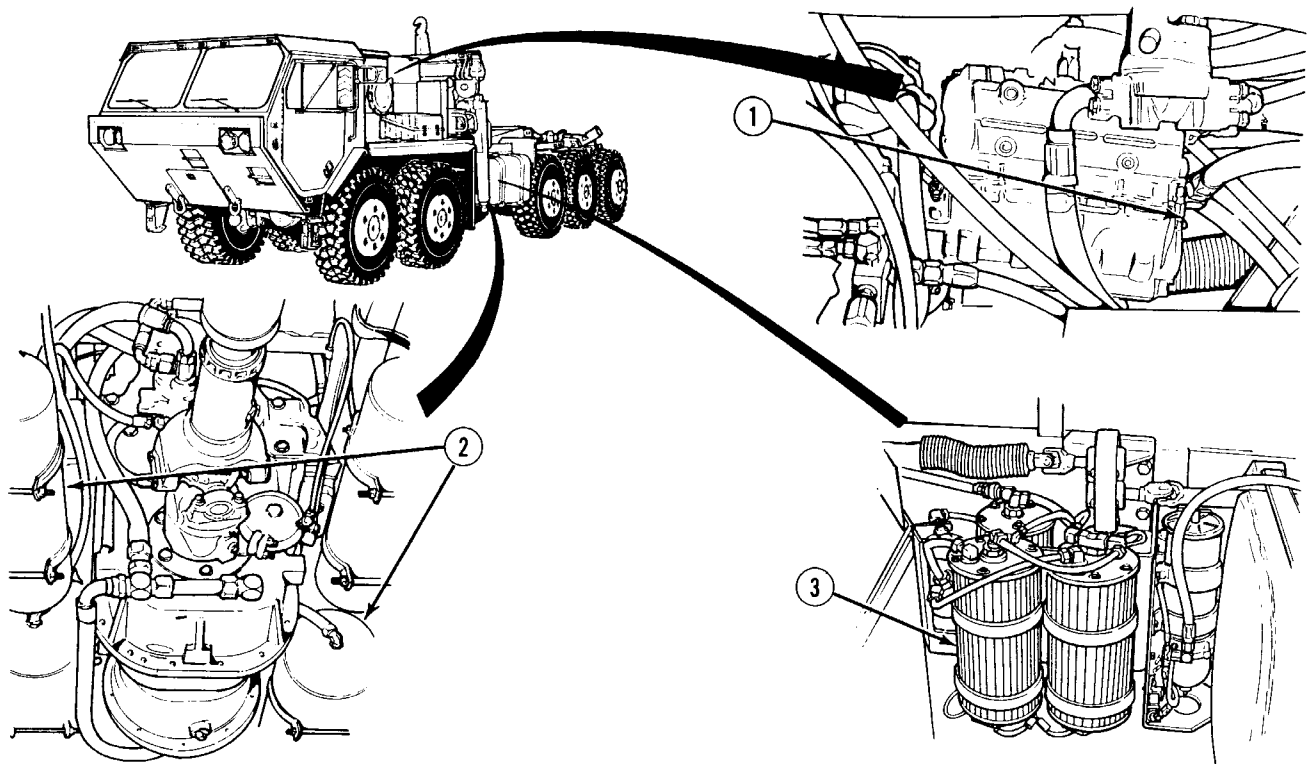

Figure 1-16. Air System
The air system (Figure 1-16) consists of an engine-driven air compressor (1) and five air reservoirs (2). The system includes the necessary valves and air lines to control the truck's air operated devices. Pressurized air from the air compressor is passed through the air dryer (3) to the reservoir. The air dryer removes dirt and moisture from the pressurized air. Air from one reservoir goes to the brake treadle valve. This air passes to the rear brake chambers, located on axles #3, #4, and #5, which control the axle rear service brake. Air pressure in this system is shown by the red needle on the AIR PRESS gage. Air from another reservoir goes to the brake treadle valve. This air passes to the front brake chambers, located on axles #1 and #2, which control the front axle service brakes. Air pressure in this system is shown by the green needle on the AIR PRESS gage. The PARKING BRAKE valve applies or releases the rear axle (parking) brakes. The reservoirs are interconnected in such a way that if one reservoir fails, air will be supplied to release the rear axle (parking) brake from whichever reservoir is functioning. If air pressure falls below 60 to 70 psi (414 to 483 kPa) in either system, a buzzer will sound, the LOW AIR indicator will light and the rear axle brakes will be applied.